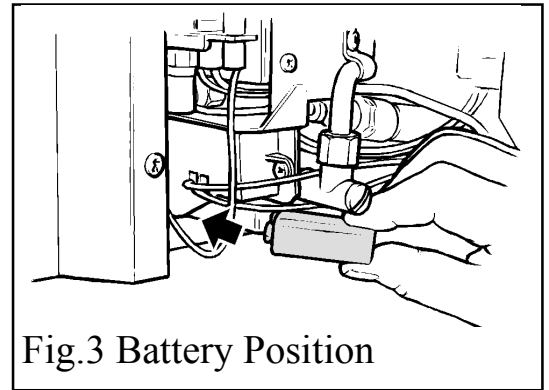

Fig.3 Battery Position
- Fit the battery to the ignition block located below the burner tray at the left side (see figure 3). The positive terminal (+) is to the right as you insert.